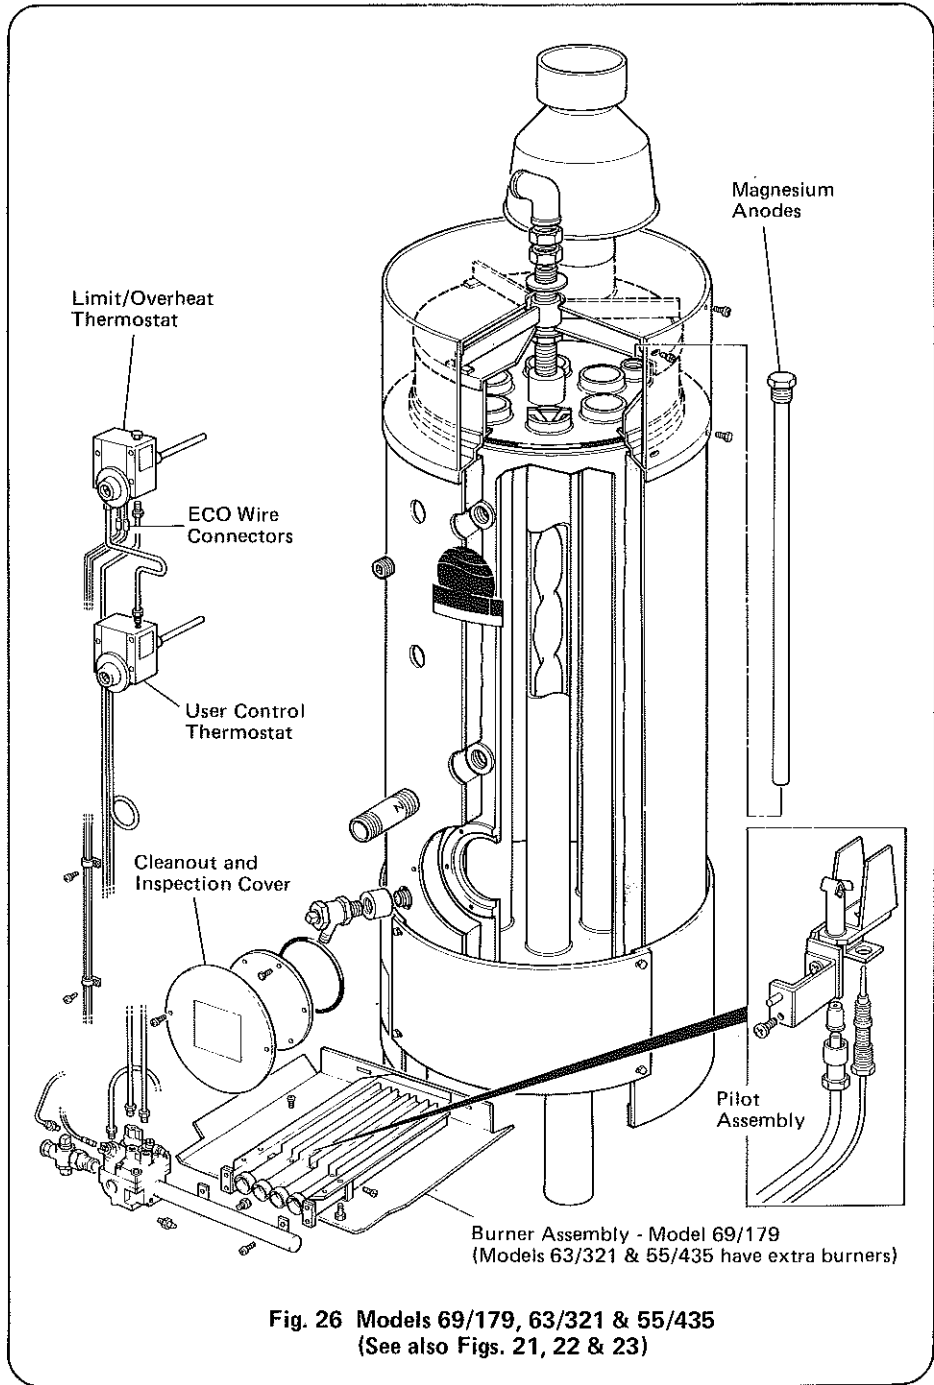

Fig. 26 Models 69/179, 63/321 & 55/435
B. Thermostats, Upper Limit/Overheat Thermostats and Lower User Control Thermostat, Models 69/179, 63/321 and 55/435 (See Fig. 26)